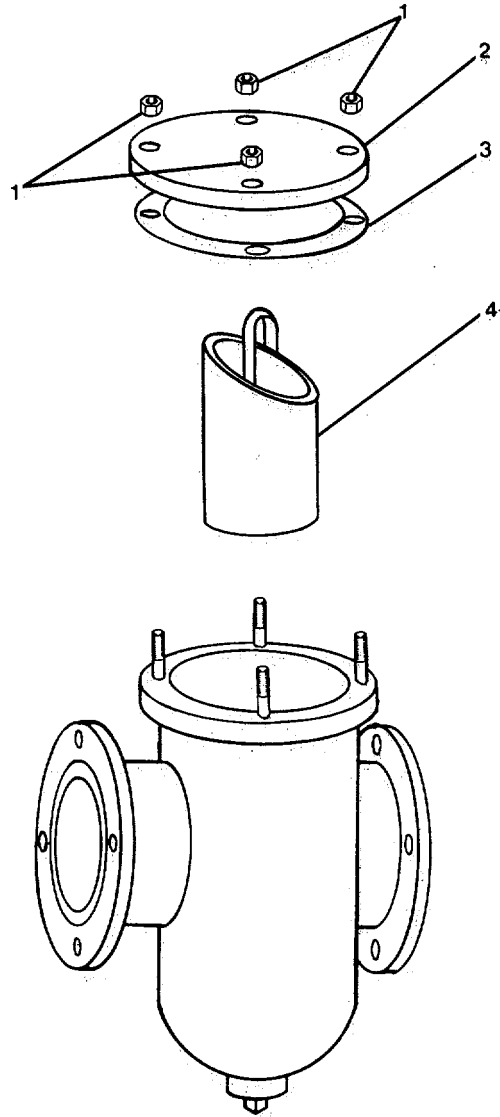

FIGURE 3-202. 2-1/2-Inch Sediment Strainer Basket, Repair.
**3-214. Repair 2-1/2-Inch Sediment Strainer Basket. (Figure 3-202)**